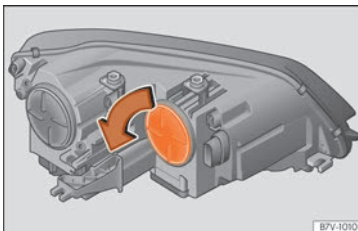

Fig. 64 In the engine compartment: turn signal cover.
- Rotate the cover  **Fig. 64** in the direction of the arrow and remove it.
- Rotate the cover  **Fig. 64** in the opposite direction to the arrow as far as it will go.
- Rotate the cover »» Fig. 64 in the opposite direction to the arrow as far as it will go.